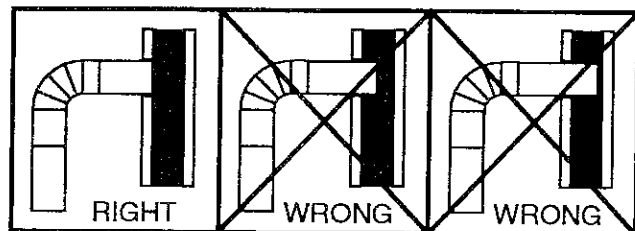

Fig. 8
4. The pipe cannot extend into the chimney flue (Fig. 8).
7. It is recommended that no more than two (2) 90 degree bends be used in the stovepipe installation as more than two (2) may decrease the amount of draw and possibly cause smoke spillage.
1. The connector pipe may be pushed into the chimney too far, stopping the draft (Fig. 8).